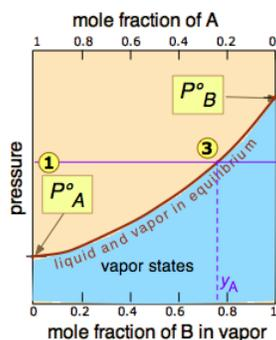

Figure 8.9.2: Liquid-Vapor Equilibrium curve.
In Figure 8.9.2, all states of the system (i.e., combinations of pressure and composition) in which the solution exists solely as a **liquid** are shaded in green. Since liquids are more stable at higher pressures, these states occupy the upper part of the diagram. At any given total vapor pressure such as at ①, the composition of the vapor in equilibrium with the liquid (designated by x_A) corresponds to the intercept with the diagonal equilibrium line at ②. The diagonal line is just an expression of the linearity between vapor pressure and composition according to Raoult's law.